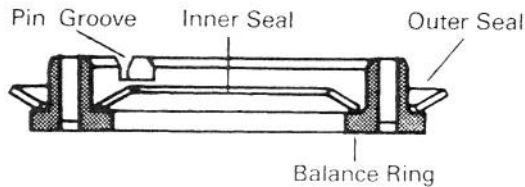

Figure 103
17. Apply petroleum jelly to inner and outer face seals. Install seals on balance ring as shown in Fig. 103.
IMPORTANT: Install face seals in the positions shown in Fig. 103, or the motor will not operate properly. Do not force or bend the face seals. Any damage to these seals will affect the operation of the motor.